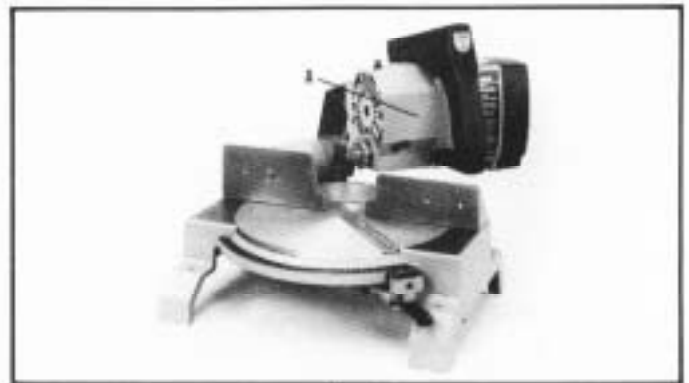

Fig. 2
1. The miter box is shipped with the cuttinghead (A) locked in the down position, as shown in Fig. 2.